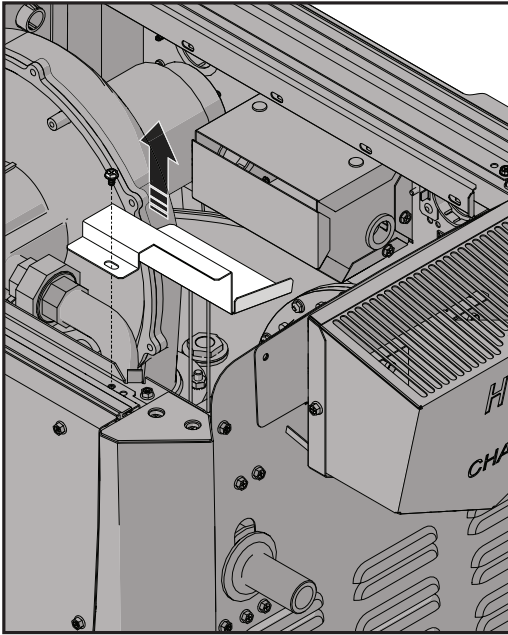

Figure 4. Remove Gas Valve Bracket
4. Remove one screw to take off gas valve bracket (Figure 4).